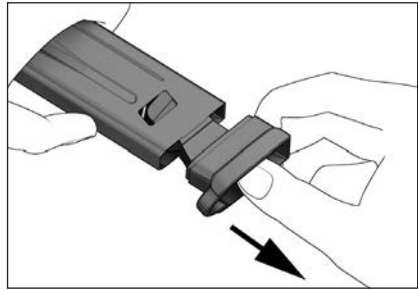

Figure 27
3. With the locking insert detent still depressed, squeeze the floor plate locking tabs located on the right and left sides of the magazine (see Figure 27).